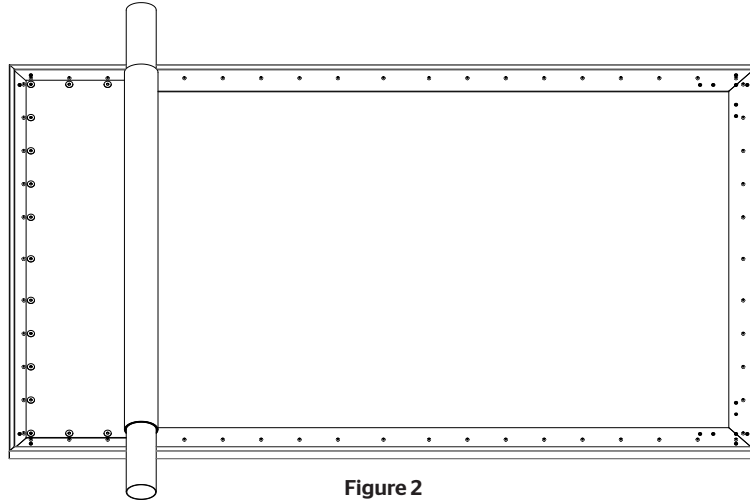

Figure 2
2. Remove foam and unroll screen surface evenly on the back of the frame. Make sure that the perimeter of the screen surface is resting on the frame. See Figure 2.